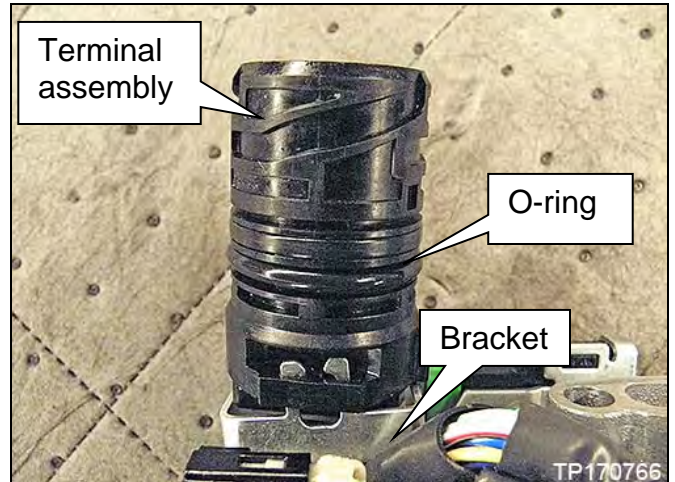

Figure 1T
2. Make sure that the terminal assembly is attached to the bracket of the new valve body (Figure 1T).